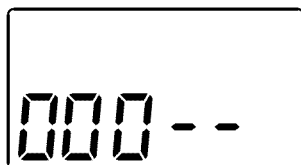

Figure 26
1. Press and hold the SELECT button until the display shows "000 - -" (see Fig. 26).